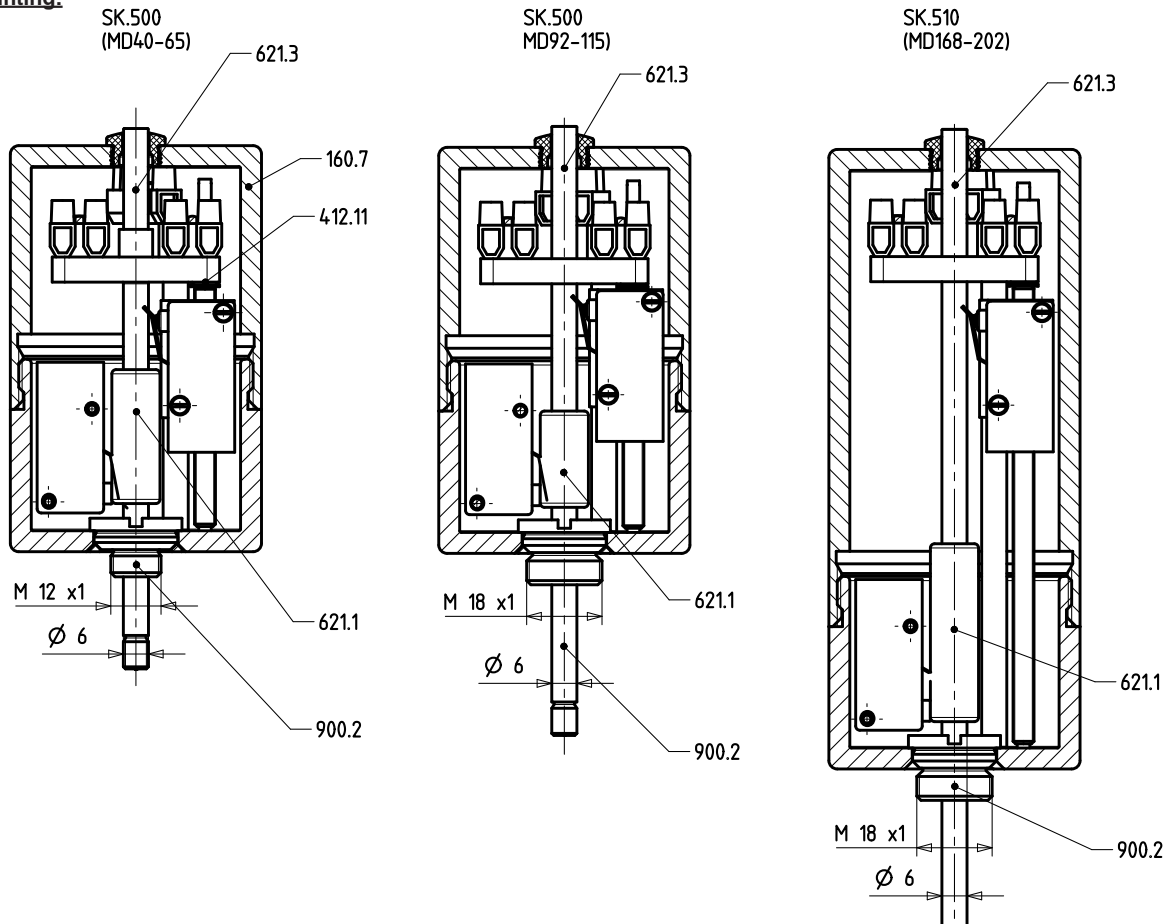

Figure 21: Overview of SK.500/510 actual-position feedback units with limit switches
Actuated valves SISTO-C: S-C LAP.520/530 SF/OF/AZ MD 40 - 202 (Fig. 21)
For retrofitting an actual-position feedback unit indicate the valve size and actuator size in the order. The three position indicator assemblies are matched to the valve sizes (Fig. 21).
4. Remove the position indicator assembly [621.1] (Fig. 21).